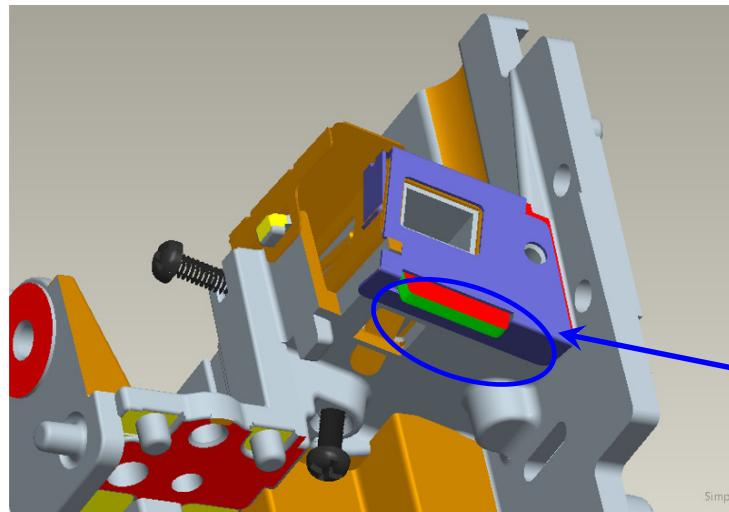
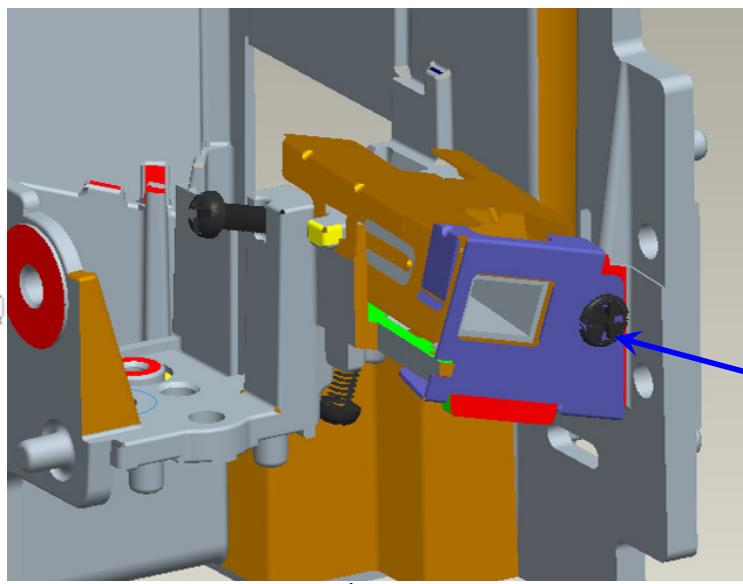

Fig. 1-6
Fig. 1-7
- v. Assembly “Baffle LP”, Hook top of Baffle LP first (Fig. 1-6) & screws(M2) well (Fig. 1-7).